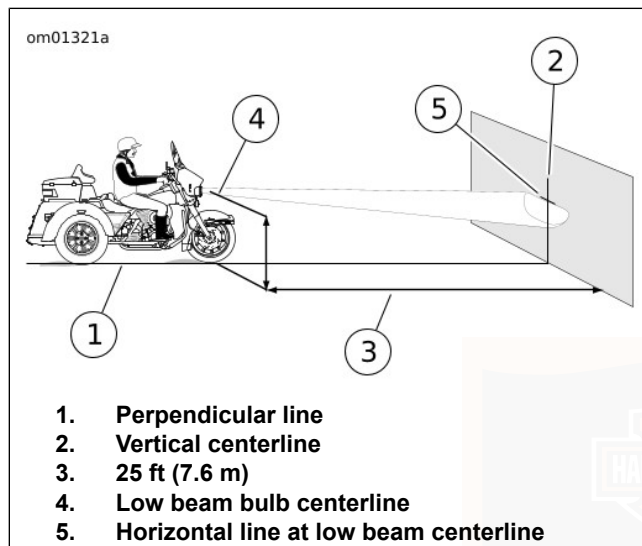
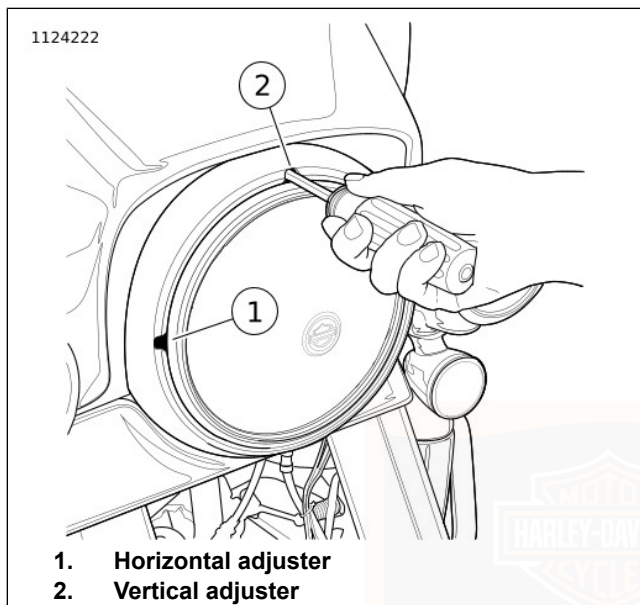

Figure 93. Headlamp Alignment: LED
Figure 94. Headlamp Adjusters: All except Frame-Mounted Fairing (typical)
See Figure 93. Park the motorcycle on a line (1) perpendicular to the wall.
8. See Figure 93. Draw a horizontal line (5) through the vertical line at measured height.
*See Figure 93. The headlamp is aligned when the top of light beam hot spot is located as shown with headlamp set to **low beam**.*
See Figure 93. Verify headlamp alignment.
2. See Figure 94. Insert a 5/32 ball end hex wrench through adjuster slots in trim ring.
- a. **Horizontal:** Turn the horizontal adjusting screw (1) to adjust light beam left and right.
- b. **Vertical:** Turn the vertical adjusting screw (2) to adjust light beam up and down.
3. See Figure 93. Adjust headlamp **low beam** as shown.